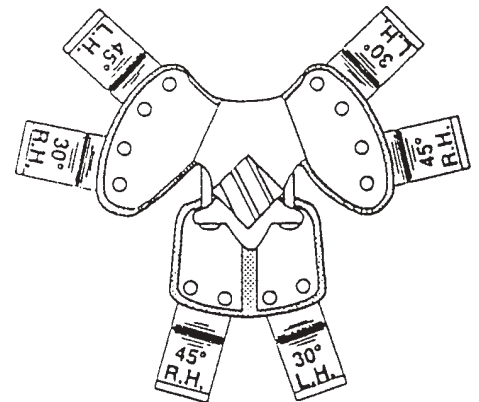
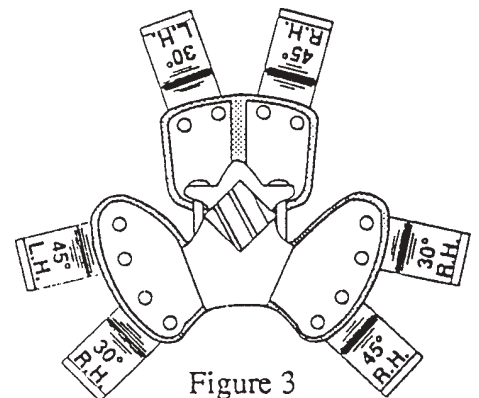

Figure 2
Figure 3
**NOTE:** All rotors and blades in **A**, **C**, etc. are mounted as in Figure 2. All rotors and blades in **B**, **D**, etc. are mounted as in Figure 3.
**NOTE:** RH & LH blades are insignificant as long as blades in Figure 2 are mounted opposite blades in Figure 3. (Blades are not stamped for RH or LH.)